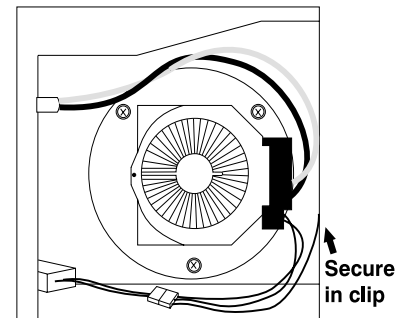

Figure 4.7. Mirage 5000 Lamp Installation
- **IF 5000:** Looking into the lamp compartment, the terminal block should be located at approximately “3 o’clock”, i.e., roughly centered and on the side of the lamp facing the projector front. *Make sure the cables travel over the lamp, i.e. NOT along the lamp compartment floor. See Figure 4.7.*